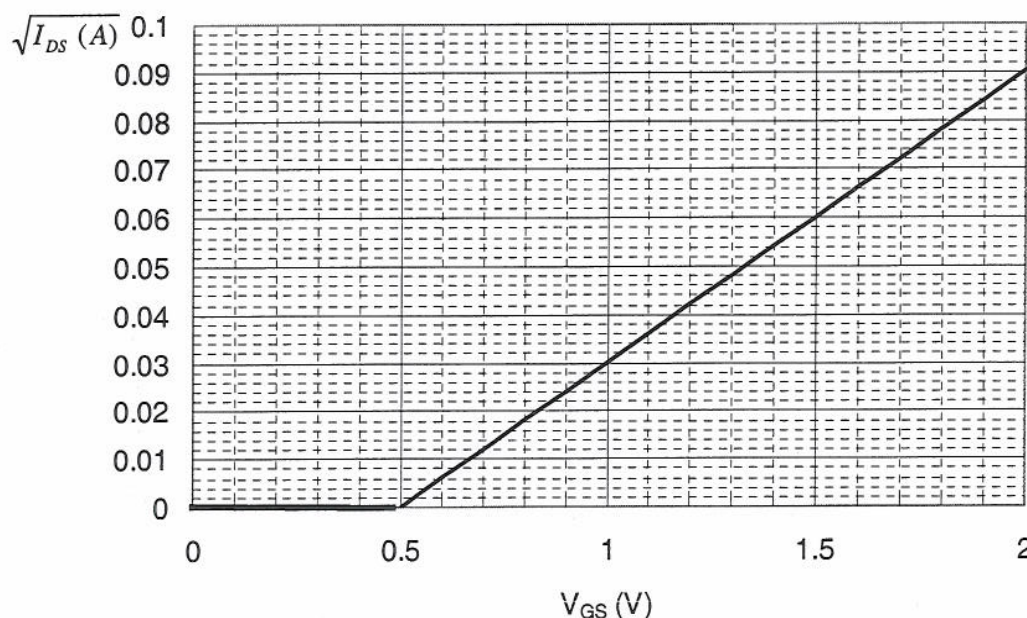

Figure 2.2: The transfer characteristics: $\sqrt{I_{DS}}$ versus V_{GS} of an ideal n-channel MOSFET
- d) In Figure 2.2 the transfer characteristic $\sqrt{I_{DS}}$ versus V_{GS} of an ideal n-channel MOSFET with a gate length of $1 \mu m$ is given. The maximum capacitance measured between gate and bulk contact of the MOSFET is $C_{max} = 1.45 \times 10^{-13} F$. Determine the mobility μ and the threshold voltage V_{th} of the MOSFET. [10]
The gradient of the transfer characteristics, $grad$ in Fig. 2.2 is $grad = \sqrt{\frac{\mu C_{max}}{2L^2}}$ At $V_{GS} = 1V$, $\sqrt{I_{DS}} = 0.03\sqrt{A}$ and at $V_{GS} = 2V$, $\sqrt{I_{DS}} = 0.09\sqrt{A}$